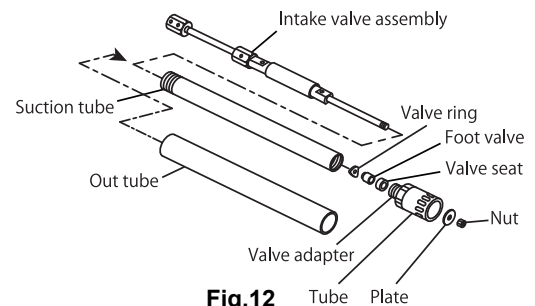

Fig.12
- 12) Insert the intake valve assembly to the suction tube. (Fig.12)
- 13) Insert the valve ring, the foot valve and the valve seat in order of it. Be sure the direction of each part is correct. (Fig.12)
Install the plate with the nut. (Fig.12)